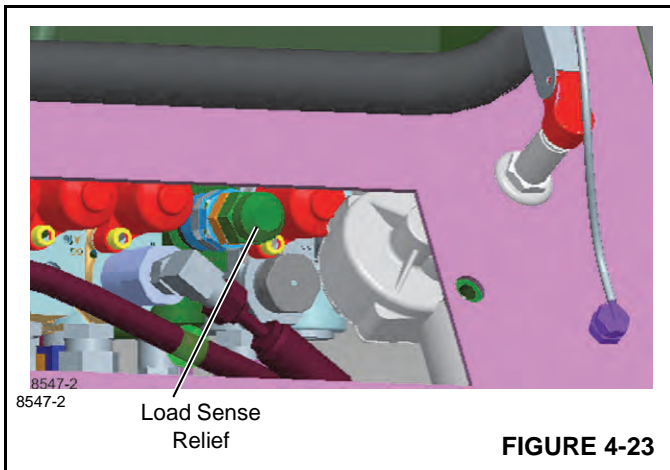

FIGURE 4-23
4. If the pressure needs adjusted, remove the cap off the load sense relief, loosen the jam nut and turn the load sense relief adjustment screw, shown in Figure 4-23, until  $27100 \pm 350$  kPa ( $3925 \pm 50$  psi) pressure is showing on the pressure gauge; clockwise increases pressure, counterclockwise reduces the pressure.